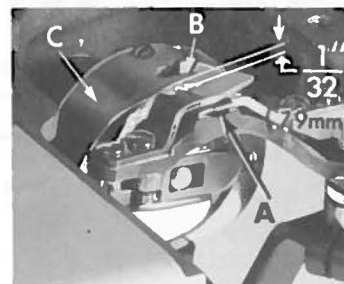

Fig. 18
3. Assemble positioning finger and knife assembly into machine. Adjust the bobbin case holder positioning finger and knife assembly by turning the bobbin case holder until the finger recess is at the top. Place the projection (A, Fig. 18) on the positioning finger into the bobbin case holder recess (B) and tighten the finger and knife assembly attaching screw securely, allowing 1/32 inch (.79 mm) clearance between the outside edge of projection and the inside edge of bobbin case recess (Fig. 18).